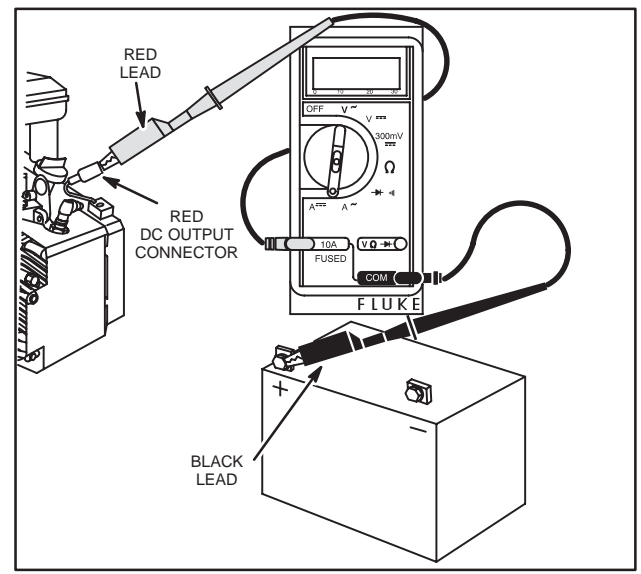

Fig. 23 – Testing Regulator-Rectifier
4. Attach RED test lead clip to DC output terminal on regulator-rectifier, Fig. 23.